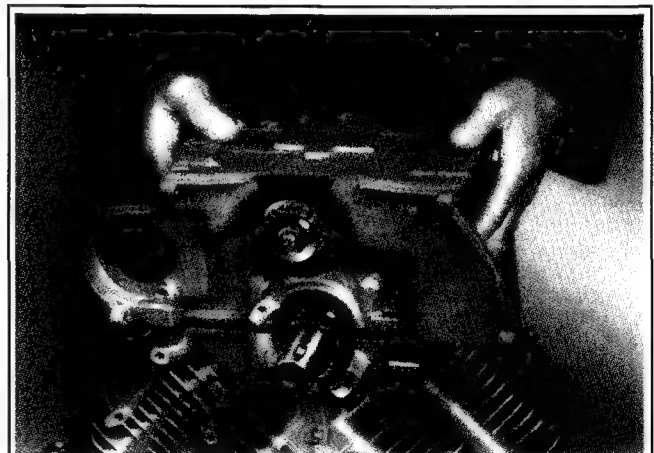

Figure 11-14. Install Lower Crankcase To Upper Half.
4. Turn lower crankcase half upside down and carefully place on the upper half as shown in Figure 11-14.